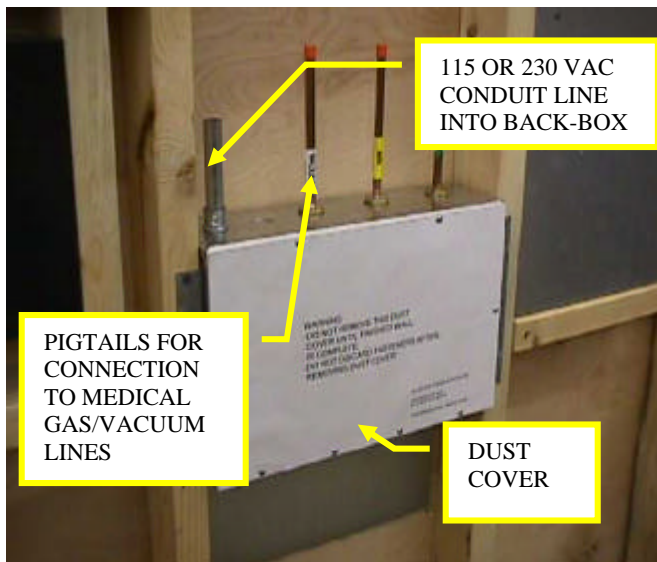

Figure 10 – Box Installed In Wall
- 2.7.1 The Connection to the 115/230 Volt, 50/60 Hertz mains are provided in the back box (see Figure 10). The fuse is located on the power supply cover. The fuse should be a 250V 3A fuse.
- 4.1.2 Install the back box at the specified height, in a rough-in wall (see Figure 10). Fasten it securely to the wall framing. **Make sure the front face of the back box is level and flush with the finished wall surface.** The contractor is reminded to coordinate with other trades in anchoring alarms rigidly into the wall. **It is not sufficient to simply grout them in.** The adjustable flanges on either side of the back-box are used for various thicknesses of drywall.
- 4.7.1 Bring 115 or 230 volts AC line, thru conduit, to the left top side of the Back Box (see Figure 10) and connect conductors to the terminal block mounted on the outside of the power supply: Hot wire to terminal labeled “**L**” ; Neutral wire to terminal labeled “**N**”; and the Ground wire to terminal labeled “**G**”. Note, strain relief should be used to attach Main Power to back box. Power for master and area alarms from the life safety branch of the emergency electrical system as described in Chapter 4, Electrical Systems. Power for local alarms, dew point sensors, and carbon monoxide sensors permitted to be from the same essential electrical branch as is used to power the air compressor system. Wiring from switches or sensors that is supervised or protected as required by Section 517.30(C) (3) of NFPA 70 National Electrical Code, for emergency system circuits.